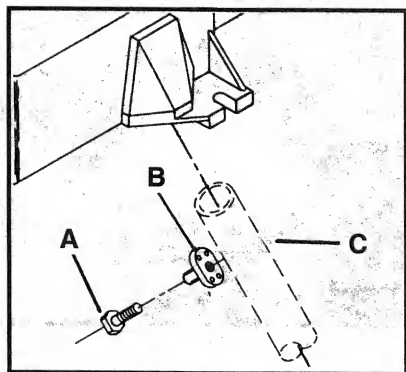

Fig. 5
The stand should be either bolted firmly to a bench, portable table, or equipped with legs for safe operation. Three base lugs, which will accept $\frac{1}{4}$ " diameter bolts (not furnished), are provided for anchoring the stand to a bench. If preferred, three legs, approximately 34" long, can be made from standard $\frac{3}{4}$ " pipe. Sockets which will receive these legs are located on the underside of the base. Three $\frac{1}{4}$ "-20" x $\frac{3}{4}$ " long bolts (A) and "T" nuts (B) Fig. 5 are furnished for locking the legs in place as follows:
1. From within the sockets, pass the neck of the "T" nut (B) Fig. 5, through the hole in the socket wall.
2. Orient the "T" nut (B) Fig. 5, so that the head is seated in the recess within the sockets.
3. Thread the bolt (A) Fig. 5, into the "T" nut (B) from outside the socket.
4. Insert pipe let (C) Fig. 5, into the socket and tighten bolts securely.